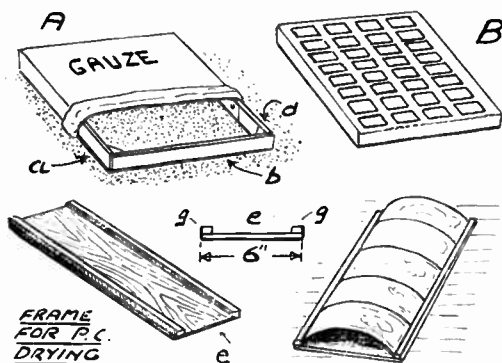

Fig. 1—Frames and materials
The ideal condition is to get air, either warmed or at usual room temperature, all round the prints as they lie in a horizontal position and to this end fine gauze or butter muslin is a great help. This is stretched over a simple frame as (A) in Fig. 1, and the prints are laid out to dry on the taut material, as (B).
Postcards drying naturally tend to acquire a bad curve which is due to the stiffness of the material and is very difficult to get out. Curling can be prevented, however, by using the frame shown in the lower sketches of Fig. 1. This is a length of board (e), 6ins. wide and 17 1/2ins. long which is supplied with the lips (g)—two thin strips of 1/2in. wide wood.